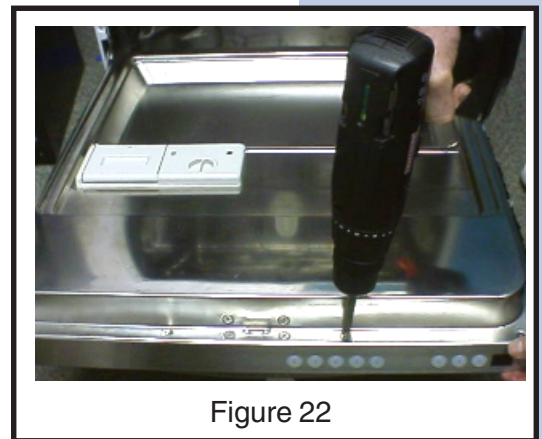

Figure 22
2. The outer door panel is mounted to the inner door panel by Phillips head screws (Figure 22).